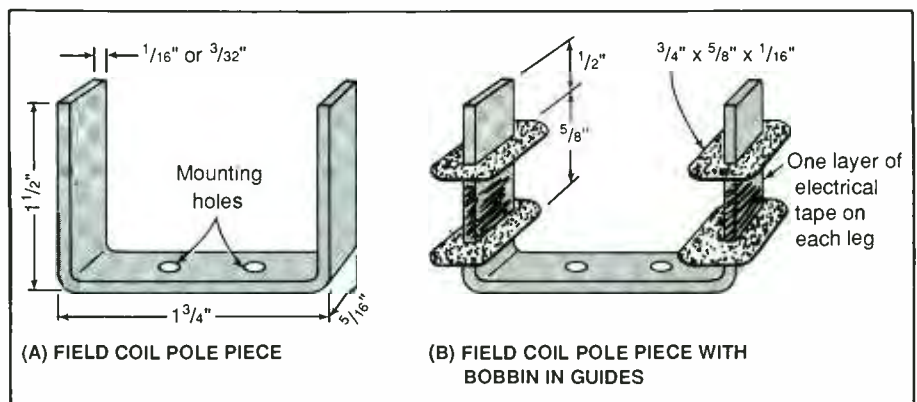

Fig. 5. Machining details for field-coil piece (A) and optional bobbin guides (B).
Meanwhile, prepare the pole pieces, as detailed in Fig. 5. For this, you must fabricate two paddle-shaped pieces of $\frac{1}{2}$ -inch-thick mild steel as shown in detail (A). Once you have cut to size the steel pieces, drill a